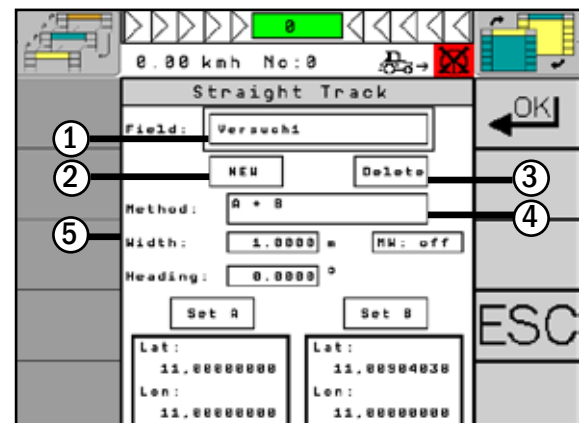

Fig. 125: Set straight track
- ① Field With the “Field” button, you select a previously created and saved field (see Fig. 125 – 1).
- ② New With the “New” button, you create a new field (see Fig. 125 – 2 and Chapter 5.1.3).
- ③ Delete With the “Delete” button, the currently selected field is deleted (see Fig. 125 – 3).
- ④ Method With the “Method” button, you can determine how the A-B line is to be created (see Fig. 125 – 4). You have the following options:
- ⑤ Width You can set the desired working width using the “Width” button (see Fig. 125 – 5).